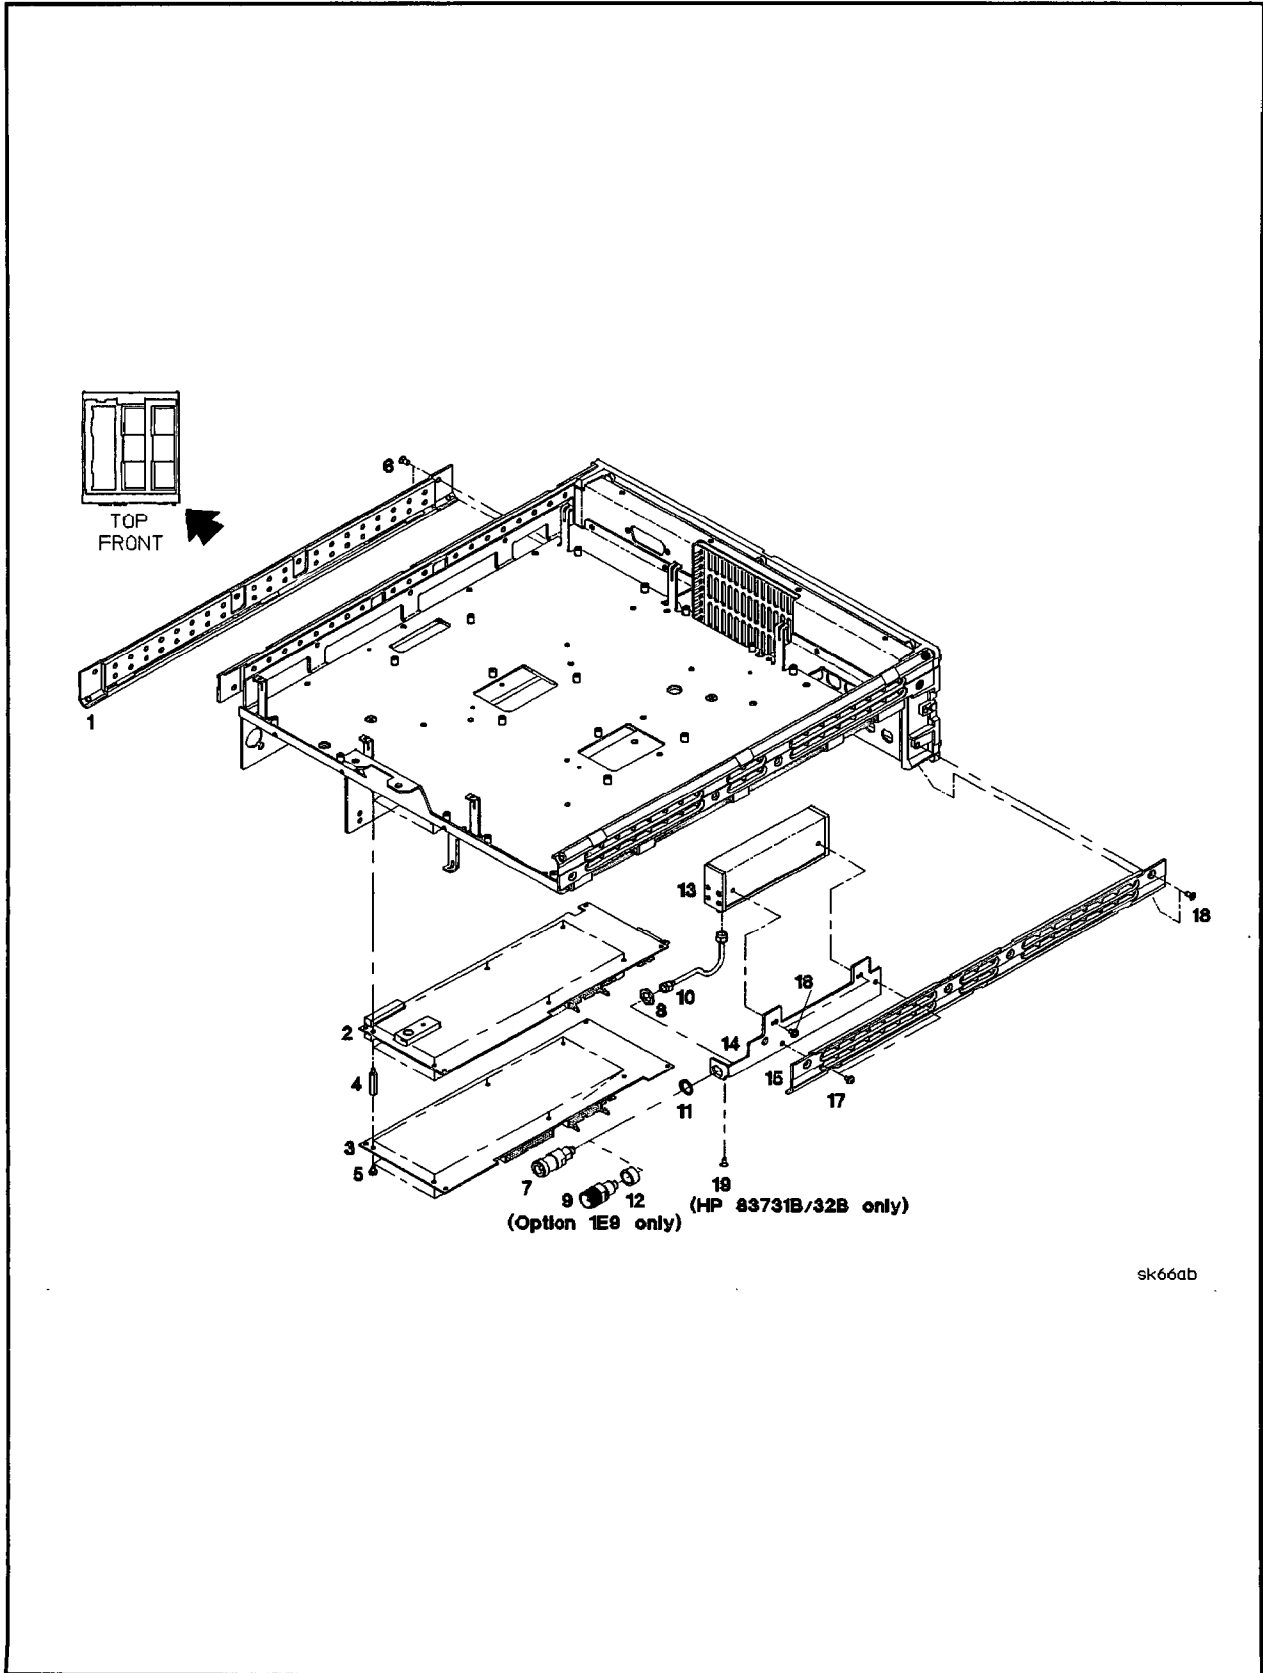

**Figure 4-13.**
**Table 4-15. Illustrated Replaceable Parts (Figure 4-13)**